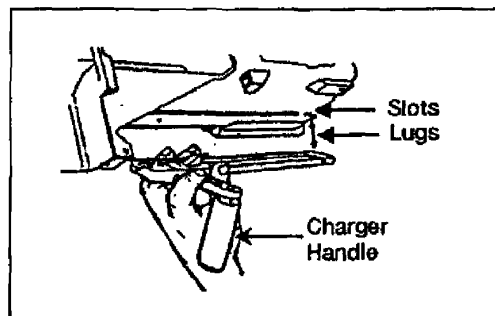

Figure 071-030-0001-16. Attachment of the charger assemblies
a. Attach the charger assemblies (both sides) (figure 071-030-0001-16).